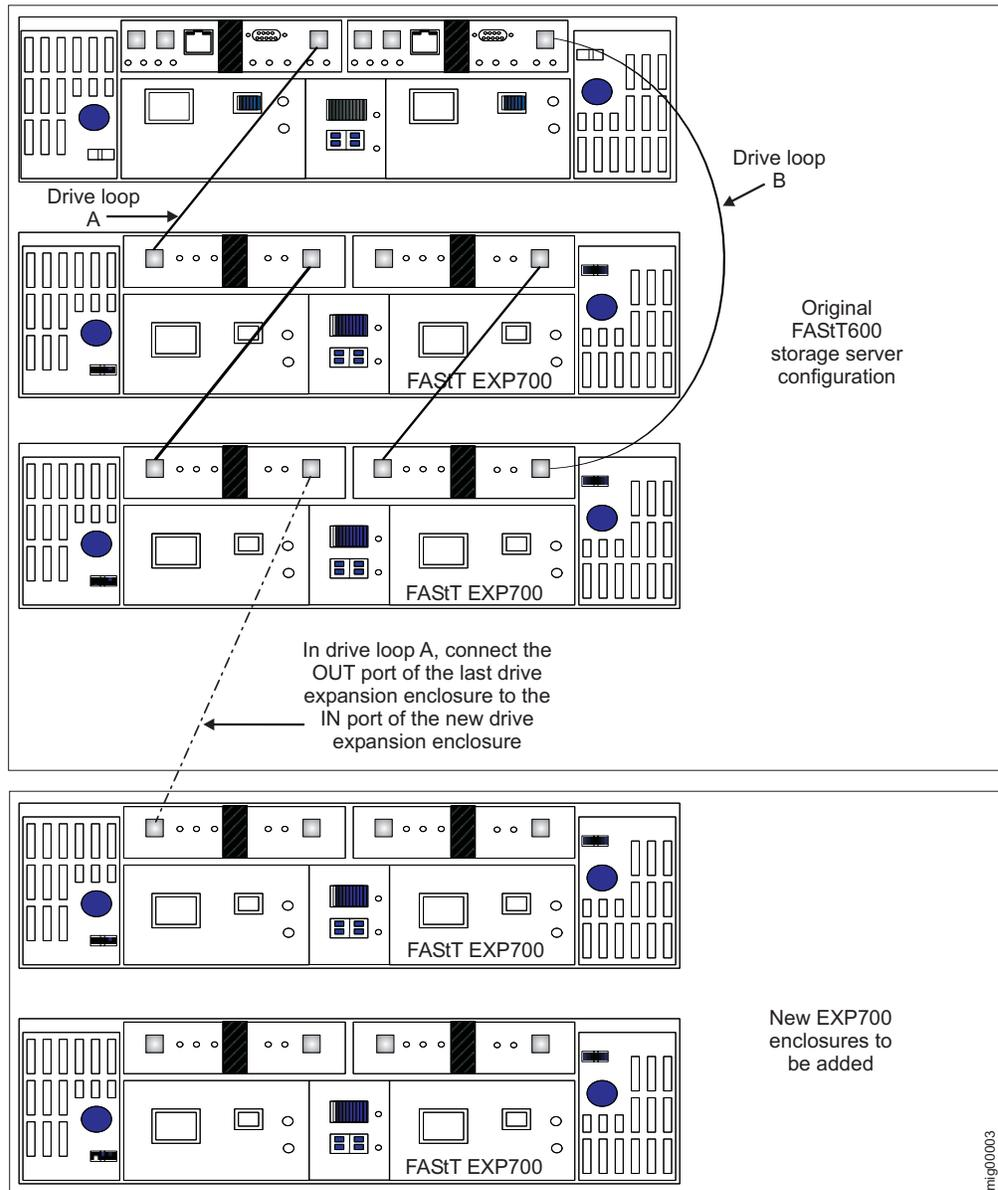
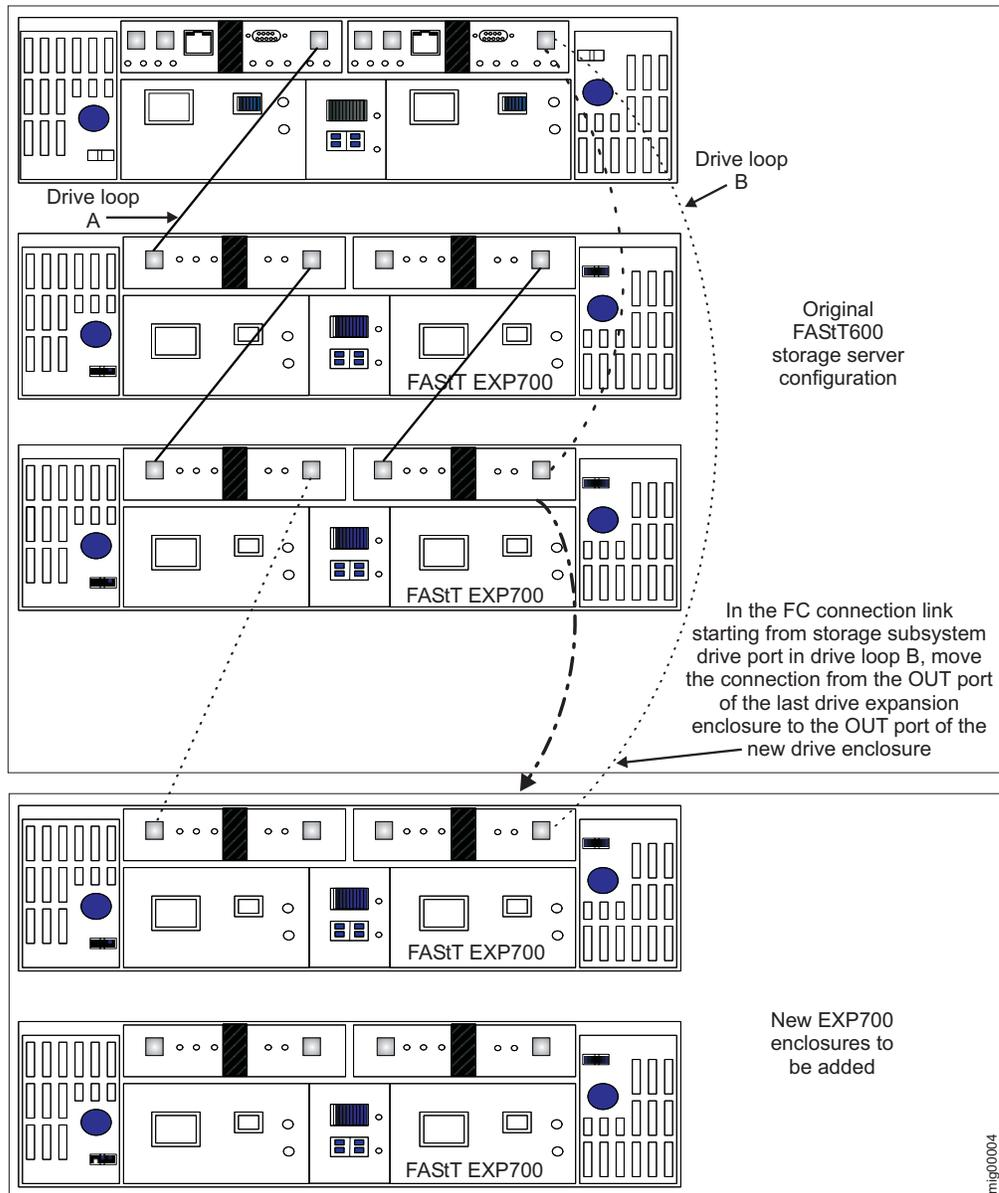
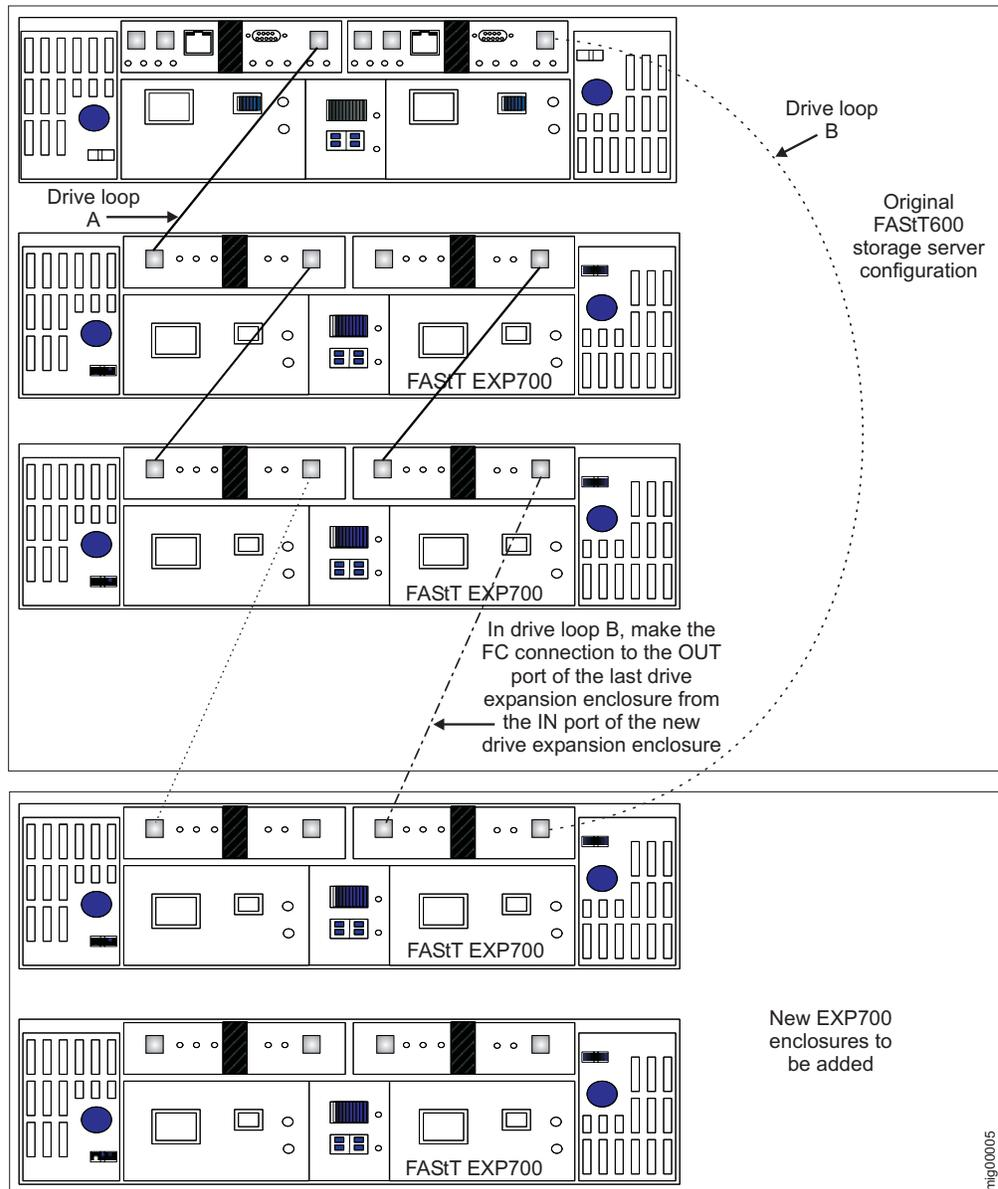

Figure 5. First connection: Cabling a single drive enclosure to a functioning drive loop
Figure 6. Second connection: Cabling a single drive enclosure to a functioning drive loop
Figure 7. Third (final) connection: Cabling a single drive enclosure to a functioning drive loop
The cabling instructions in the steps that follow are based on the cable routing scheme that is documented in *IBM TotalStorage FAStT Storage Manager installation and support guides*. The cabling instructions illustrated in Figure 5 on page 22, Figure 6 on page 23, and Figure 7 on page 24 describe cabling a FAStT
1. Extend one of the drive loops (that is, drive loop A) in a FAStT Storage Server redundant drive loop pair by connecting the OUT port of the last storage expansion enclosure to the IN port of the new storage expansion enclosure as shown in Figure 5 on page 22.
4. In the other drive loop (that is, drive loop B) in a FAStT Storage Server redundant drive loop pair, remove the fibre channel connection from the storage subsystem drive loop port to the OUT port of the last storage expansion enclosure and connect it to the OUT port of the new drive enclosure as shown in Figure 6 on page 23.
6. In drive loop B, cable the new drive enclosure's IN port to the OUT port of the last enclosure in the already functioning storage expansion enclosure drive loop as shown in Figure 7 on page 24.